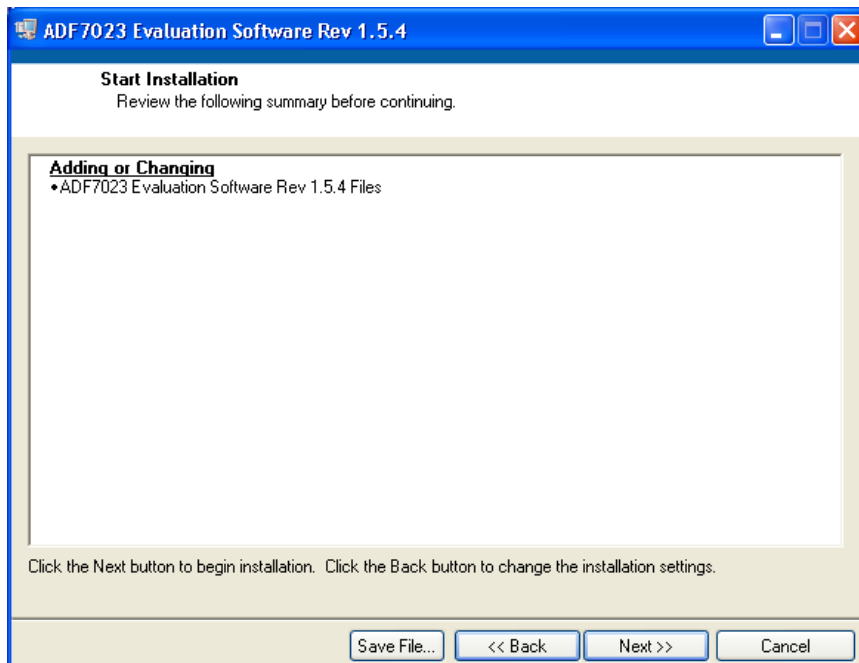

Figure 6
7. Click ***"Next"*** (Figure 6):